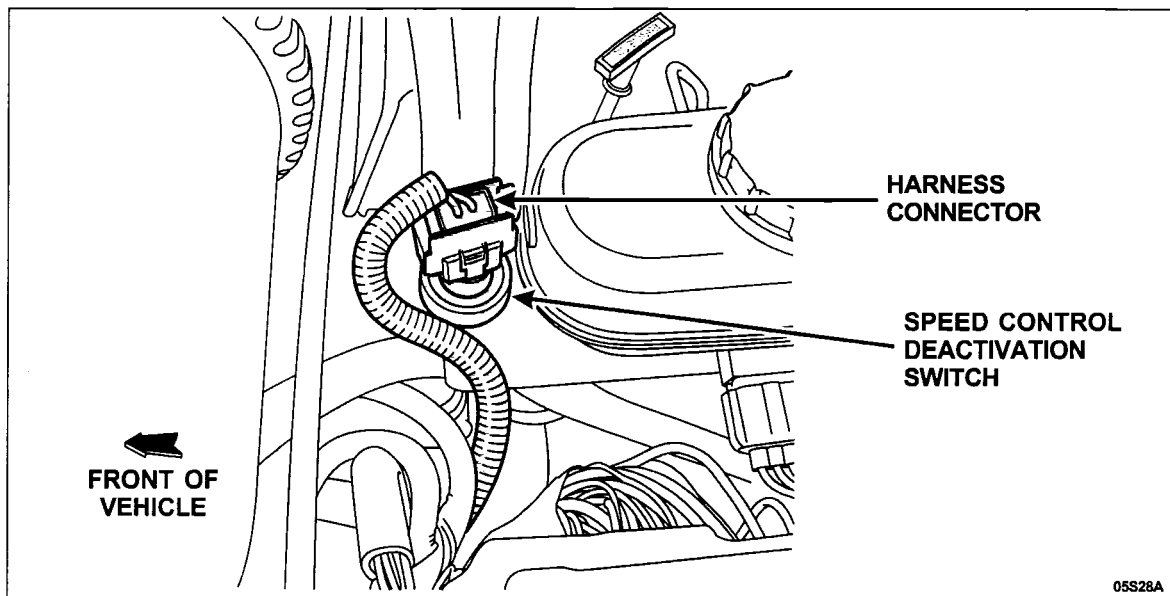

FIGURE 1
1. Disconnect the speed control deactivation switch harness connector located on the brake master cylinder. See Figure 1.